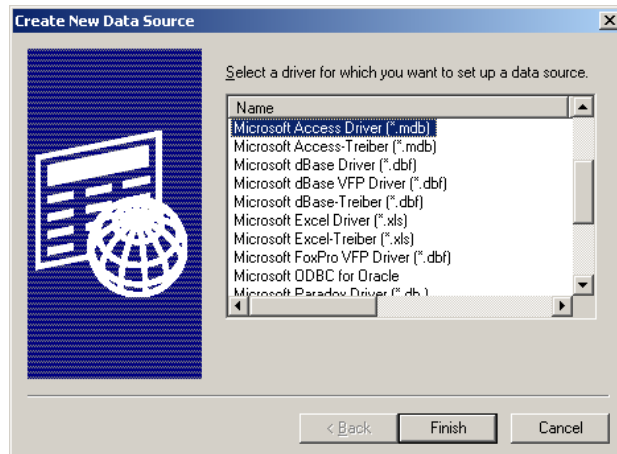

Figure 75
Step 6 – Select the MICROSOFT ACCESS DRIVER (Figure 75)